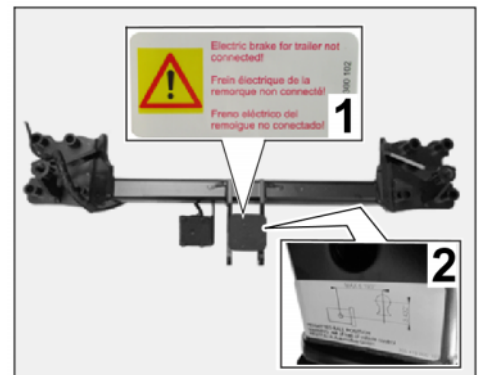

Figure 14
2.7.2 Affix sticker showing the warning "Electric Brake for Trailer not connected" on a clean surface at a clearly visible position next to the "Ball Position" sticker or the dashboard (⇒ *Figure 14*).